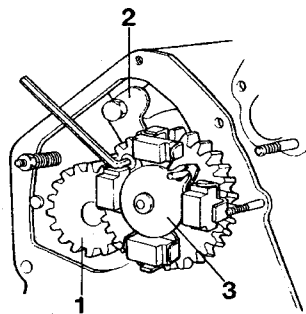

Fig. 70. Fitting the camshaft
- MD2010, MD2020: Fit the gear (1, Fig. 70) for the mechanical tachometer drive\*.
- Oil in the camshaft's bearing races and carefully lift the camshaft in position complete with gear and regulator weights (together with the gear (1) for the mechanical tachometer drive\* on MD2030 and MD2040.